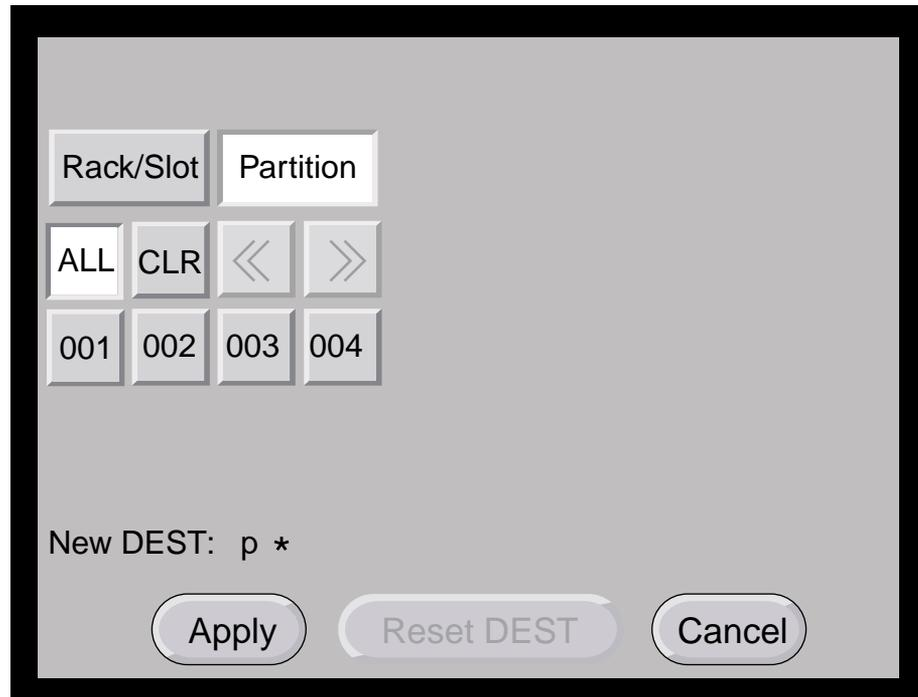

Figure 4-10 Partition Selection Window
4. If you want to power on a partition, select **Partition** from the destination selection window. The partition selection window, shown in Figure 4-10, appears.